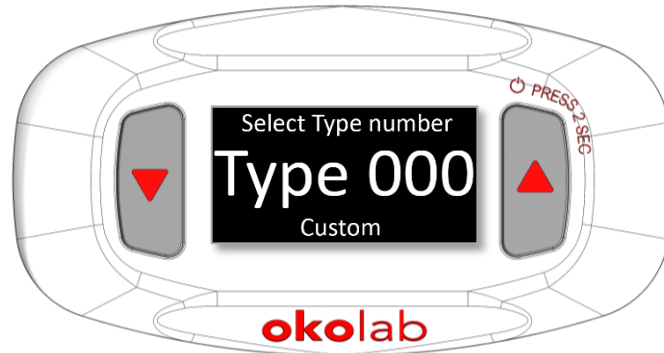

Figure 16. Device Type 000 allows manual setting of control parameters.
**Tip** ► When selecting “Type 000”, the display shows “Custom” as Device Type. See Figure 16.